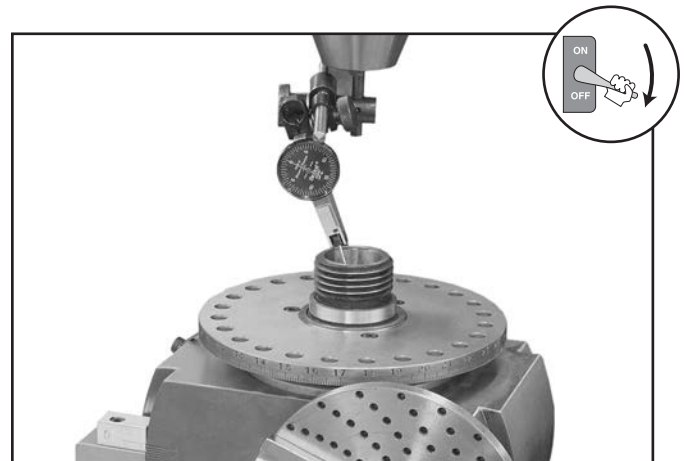

Figure 8. Indicating the spindle bore.
3. Mount a test indicator in the mill spindle and position the indicator tip against the inside wall of the dividing head spindle bore, as shown in **Figure 8**.